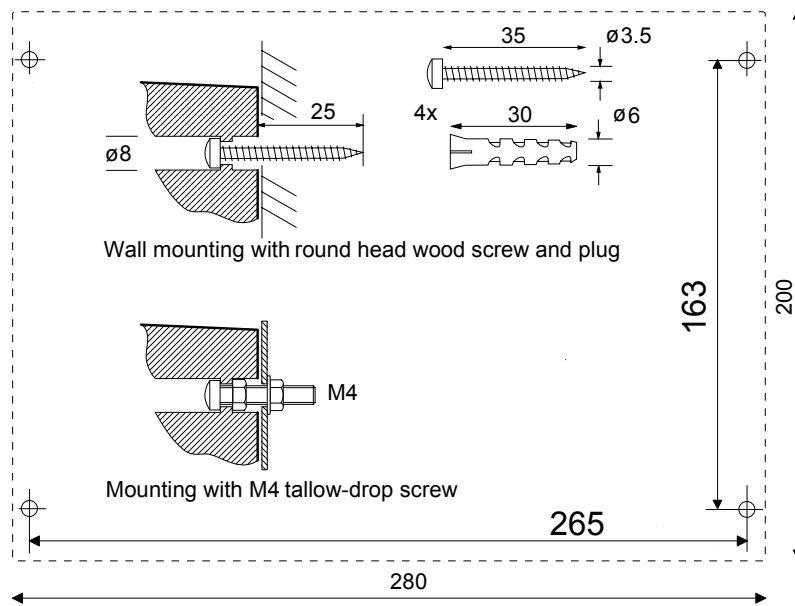

Fig. 4.1: Mounting of PIOX TR374
- At the selected location, drill 4 holes in the wall according to Fig. 4.1.